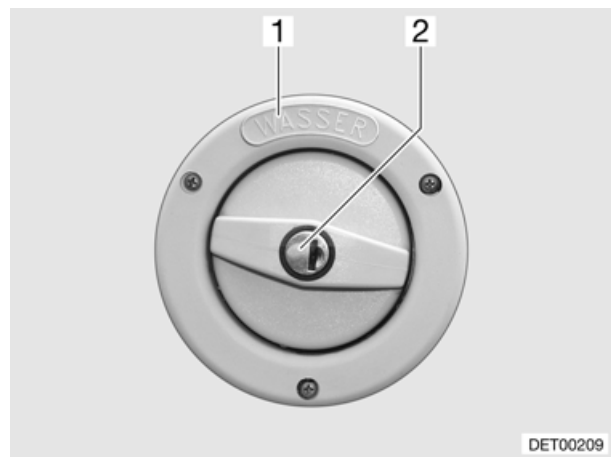

Fig. 83 Cap for the fresh water filler neck
▷ The fresh water filler neck is labelled with the word "WASSER" (water) (Fig. 83,1).
- Insert key into locking cylinder (Fig. 83,2) and turn it in an anticlockwise direction.
- Put the key in the locking cylinder (Fig. 83,2) and turn in a clockwise direction.
- Remove the cap (Fig. 83,2) from the fresh water filler neck (see section 10.3.1).